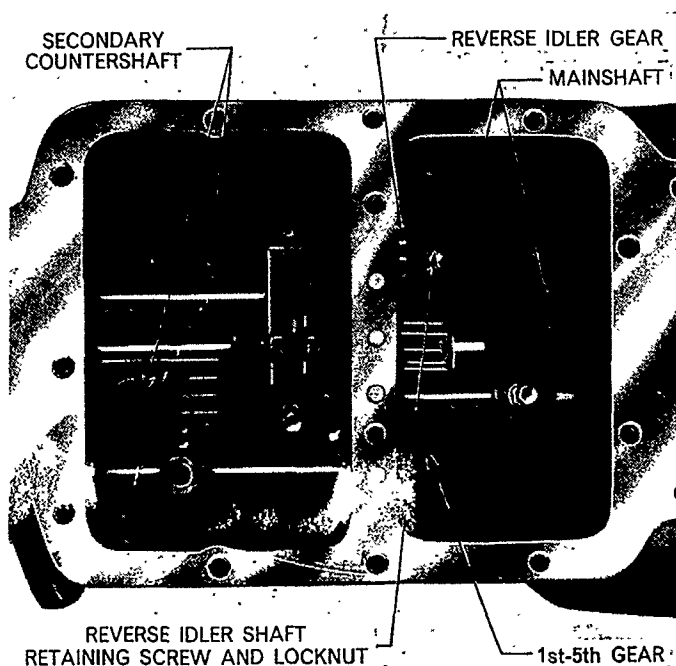

Figure 78
1. Bend down the locktab and remove the bolt, Figure 78, retaining the reverse idler shaft.
1. Position the reverse idler gear between its supporting lugs, Figure 78, with the extended hub of the gear forward.